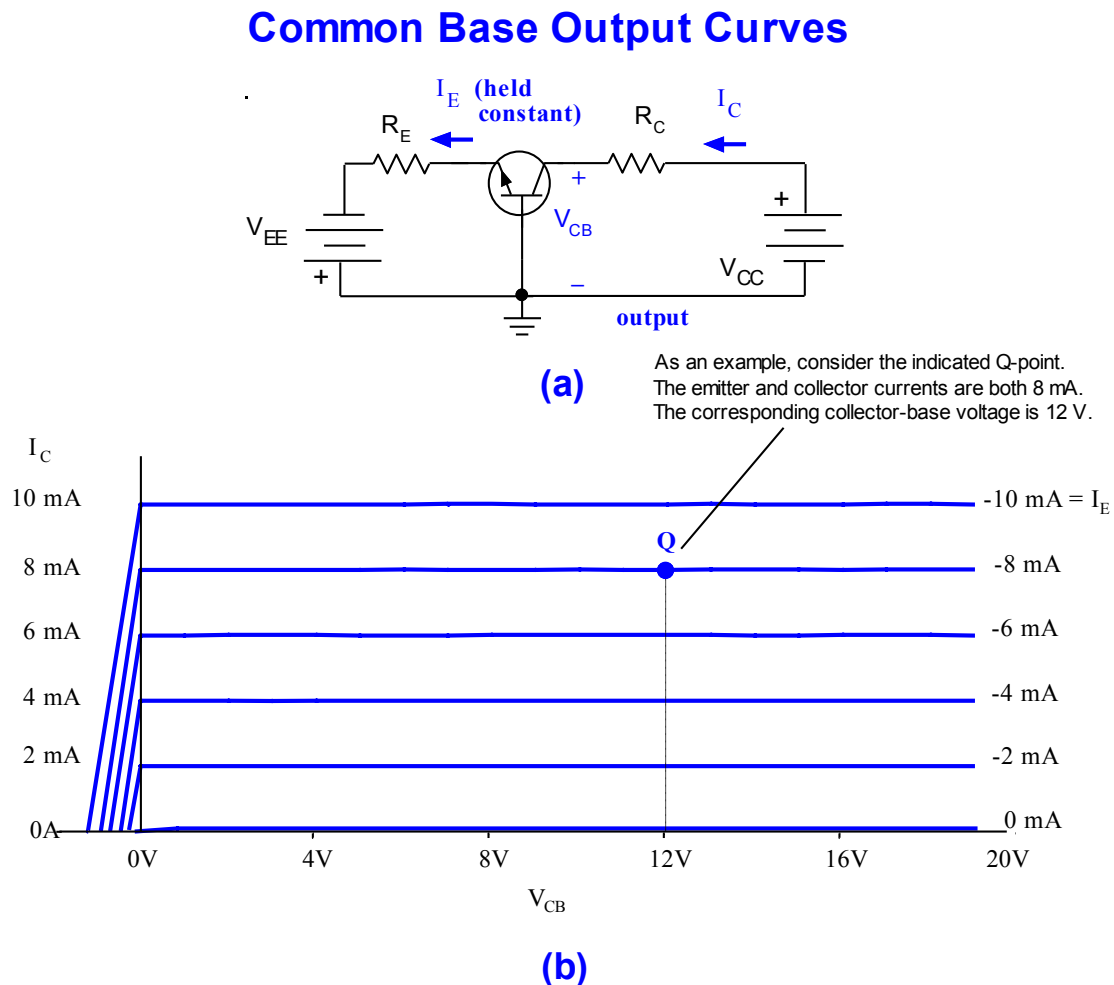

Figure 5-15.
The common-base output curves for an *nnp* BJT are generated using the circuit given in Fig. 5-15(a). The output current is I_C . Since the base is taken to ground, the output voltage is V_{CB} . The emitter current I_E controls the collector current. Consequently, I_E is taken as the parameter. It is held constant while each output curve is being generated. The result is the family of output curves shown in Fig. 5-15(b). The emitter current values are labeled negative in observance of the transistor convention. Note that the emitter and collector currents are almost equal to one another. A sample DC operating point (Q) has also been indicated in Fig. 5-15(b).